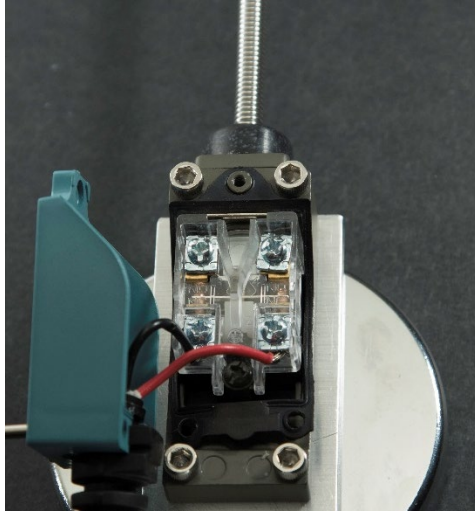

Figure 17: Inverting the whisker switch
2. Loosen the 4 interior screws. Move the black and red wires from the top 2 screws (NO) to the bottom 2 screws (NC), as shown in Figure 17. Re-tighten the 4 interior screws.